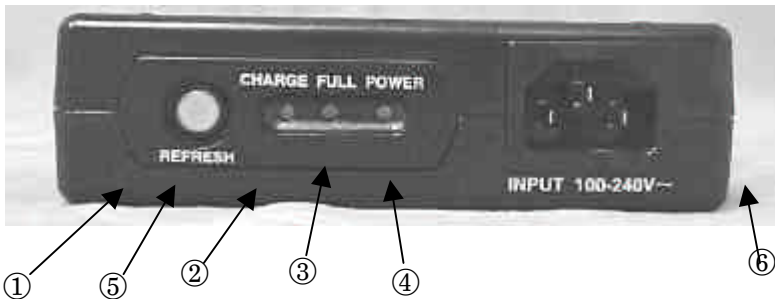

Figure 25. Battery Charger Status LED's
BU-M1 (BU-65) battery modules are re-charged using the PS-M1 (PS-65) power supply module. The charger has 3 status LED's located on the front panel, that identify the stage of the charging process. Figure 25 describes the LED's and each various status condition.
4. When charging is complete, the “FULL” LED will turn on. (Refer to Figure 25 for information on status LED’s.)